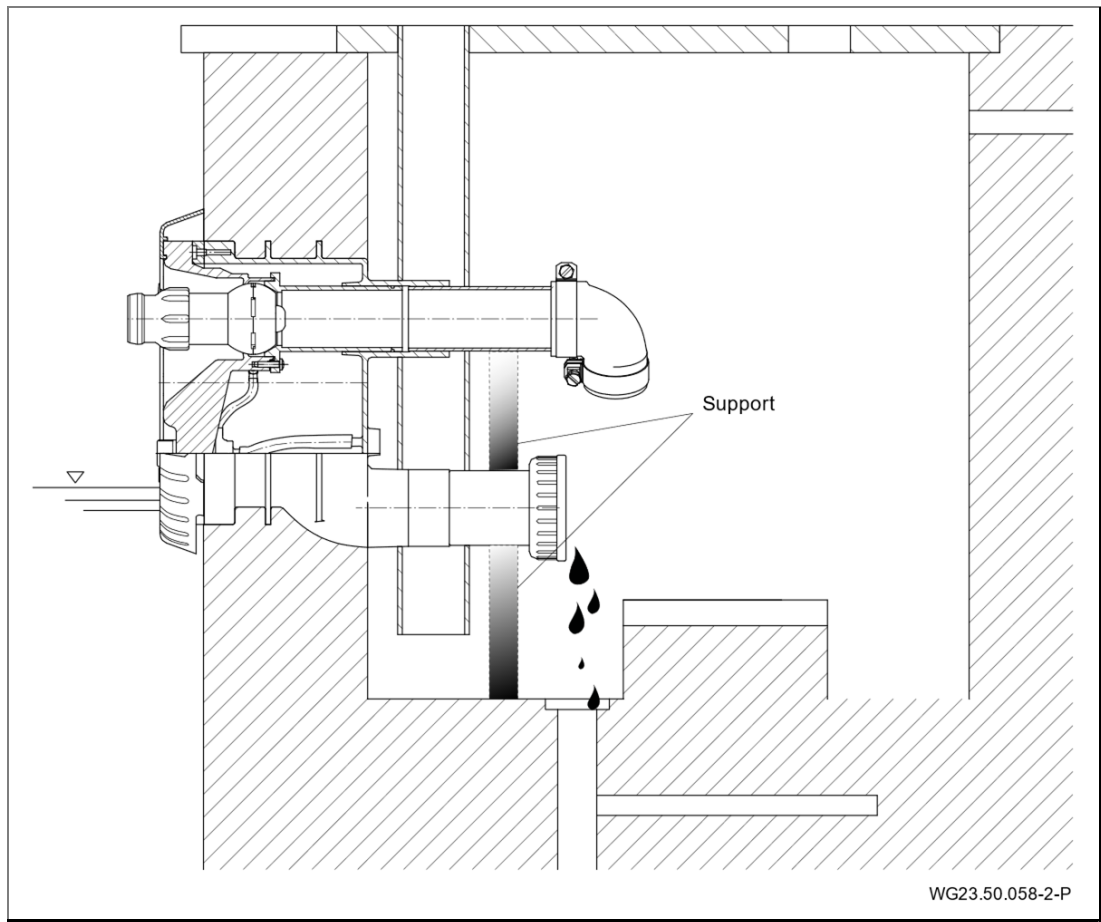

Fig. 22
3. Support the suction and pressure lines to relieve them. See "Fig. 22" on page 40.